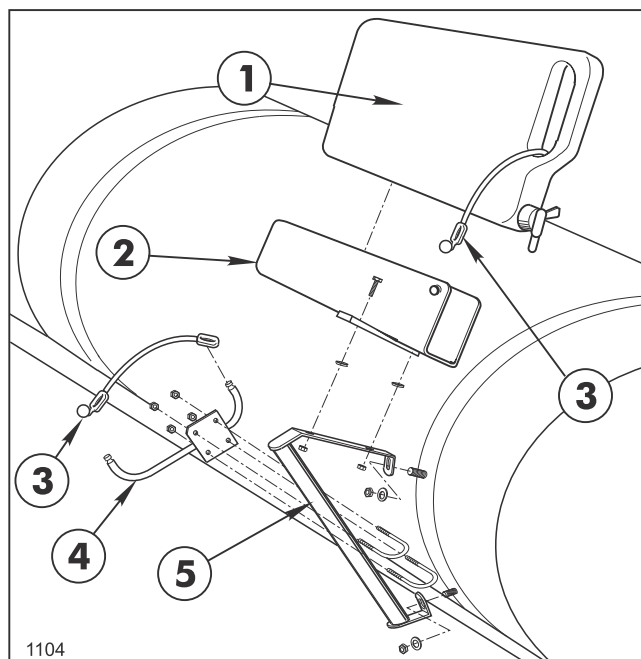

FIG. 8
1. Mount right Hold-In Brace assembly to the two (2) 5/16" carriage bolts in the front Tank Band using two (2) 5/16" flat washers and hex nuts. Tighten securely. See FIG. 8.
2. Attach right Boom Hold-In assembly to Hold-In Brace assembly using two (2) 1/4" U-bolts and four (4) 1/4" lock nuts. Attach Rubber Hold-Down to Hold-In Brace assembly. Repeat steps 1 and 2 for left side.
3. Mount Wash Tank Bracket (open end forward) to right-hand Hold-In Brace assembly using two (2) 5/16" x 1" hex hd. Cap screws, flat washers, and hex nuts. Place Clean Water Wash Tank into Wash Tank Bracket and secure with Rubber Hold-Down, as shown in FIG. 8.